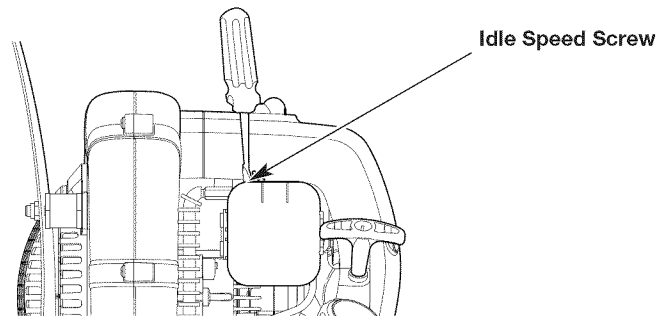

Fig. 14
2. Move the cruise control to the SLOW position and let the engine idle. If the engine stops, use a small Phillips screwdriver to turn the idle speed screw clockwise, 1/8 of a turn at a time (as needed) until the engine idles smoothly (Fig. 14).
3. If the engine is idling too quickly, turn the idle speed screw counterclockwise, 1/8 of a turn at a time (as needed) to reduce the idle speed (Fig. 14).